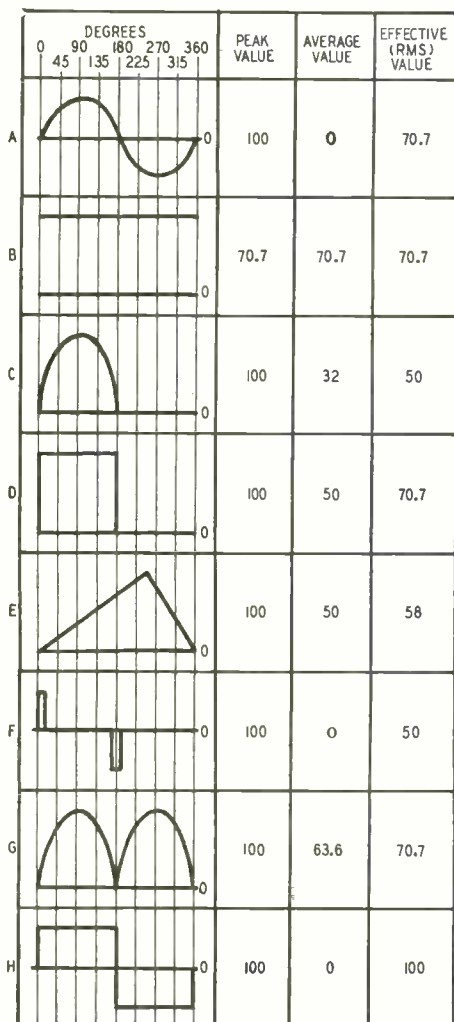

Fig. 1—Shape of the waveform affects peak, average, and effective values.
This is best illustrated by imagining the voltage of Fig. 1-a being measured by our voltmeter. The coil swings in one direction for the positive half of the cycle and in the opposite direction for the negative half. If both alternations are equal in amplitude, we have equal swings. The average of the two swings is, of course, zero, which is what the meter reads. The swinging of the needle is visible only if the frequency is very low. The meter reading is the average of the instantaneous motions of the needle, the average of the currents flowing through the coil over a short period of time. All d.c. meters are calibrated in average values.
What is the significance of the *average value*? Vacuum-tube potentials and currents may vary with instantaneous signal level but proper operation is often determined by the average values. On the other hand, circuit components and the tubes themselves must be selected on the basis of the heating effect of the currents passing through them, which depends on the effective or r.m.s. value. For Fig. 1-b, a d.c. "wave," the average, effective, and peak values are alike. The d.c. meter is designed to measure this type of voltage accurately for only then can it register the heating effect directly. Compare this with Fig. 1-a where the meter would read nothing, yet we know the effective value is as great as for Fig. 1-b.
conventional meters. Step 1 in our calculations is to divide one cycle of any wave into a number of equal time intervals. The greater the number, the better the accuracy. In Fig. 1, the waves are divided into eight parts, though this is far too few for any accuracy. We will then note the amplitude at each of these intervals.
The direction of the current flow has no bearing on its heating effect. Both the negative and positive alternations of a current heat equally a resistor through which it flows. (Note that Fig. 1-g has the same effective value as 1-a.) In other words, polarity is ignored for r.m.s. calculations, but not for averages.
Step 2 is to calculate the average value by adding all the amplitudes and dividing the sum by the number of intervals. Table I lists the data for four of the waves illustrated in Fig. 1. The others are obtained similarly.
As a sample of the calculation of the average value, for Fig. 1-d, the sum of the amplitudes is 400 volts. Dividing by the number of points taken, 8, we arrive at an average value of 50 volts. For 1-a we get zero volts.
The *effective* value is next calculated. The heat produced by a current varies directly as the square of the current ($P = I^2 R$), or of the voltage ($P = E^2 / R$). The term r.m.s. means "the square root of the average of the squared amplitudes." That is, the effective current is that whose square is the average of all the heating effects. For a sample calculation, for Fig. 1-d (see Table I), the sum of the squared values is 40,000. Dividing by 8, the average of the squares is found to be 5,000. The square root of 5,000 is 70.7 which is the r.m.s. value for the wave. Calculating for Fig. 1-h, we find the effective value is equal to the peak, and the average value to zero.
It is somewhat simpler to understand this last, if we imagine any a.c. wave as it would appear *after full-wave rectification* as in Fig. 1-g compared with 1-a. This is in agreement with what has been said about the direction of the current flow being unimportant. The calculations are based on this "rectified"
Coming back to our d.c. voltmeter, let's see what happens in the measurement of pulsating d.c. voltages. If Fig. 1-d were the plate voltage of a tube, the 50-volt average value would be used in determining the gain or power-handling ability of the tube. The 70.7-volt r.m.s. value would be needed to calculate the wattage of the load resistor. The peak value of 100 volts should be known to select tubes and capacitors that won't break down. The meter, however, is giving us only the
The square wave of Fig. 1-d is formed by the addition of a great many harmonics. It is very possible that many of the harmonics will be lost due to bypassing capacitance in the meter circuits. Something like Fig. 1-c might result. Assume that the peak value remains as high as that of the original square wave. (This is very unlikely.) Then the average value is 32 volts and the effective value is 50 volts, as calculated from Table I. Our meter would read too low. This extreme case indicates what is to be expected and is *not* to be taken as a practical example.
There is yet another cause of error in using the meter on pulses. Look at Fig. 2, the electrical circuit for the d.c. voltmeter. R is the large value of resistance used as a multiplier and L the inductance of the meter coil (usually small in value). Such a circuit is a differentiator. The voltage across the inductance might look like Fig. 1-f if the square wave were applied to the input terminals. It is easy to see that the average and r.m.s. values might be far different from those of the original square wave.
The inaccuracies noted above seem to be avoided by the use of a d.c. vacuum-tube voltmeter operating on peak values. From Fig. 1 it is obvious that, regardless of wave shape, the same peak value will be read for c, d, and e. Unfortunately, the meter is intended to be used with voltages such as Fig. 1-b where the peak value is also the average and r.m.s. value. This is not true